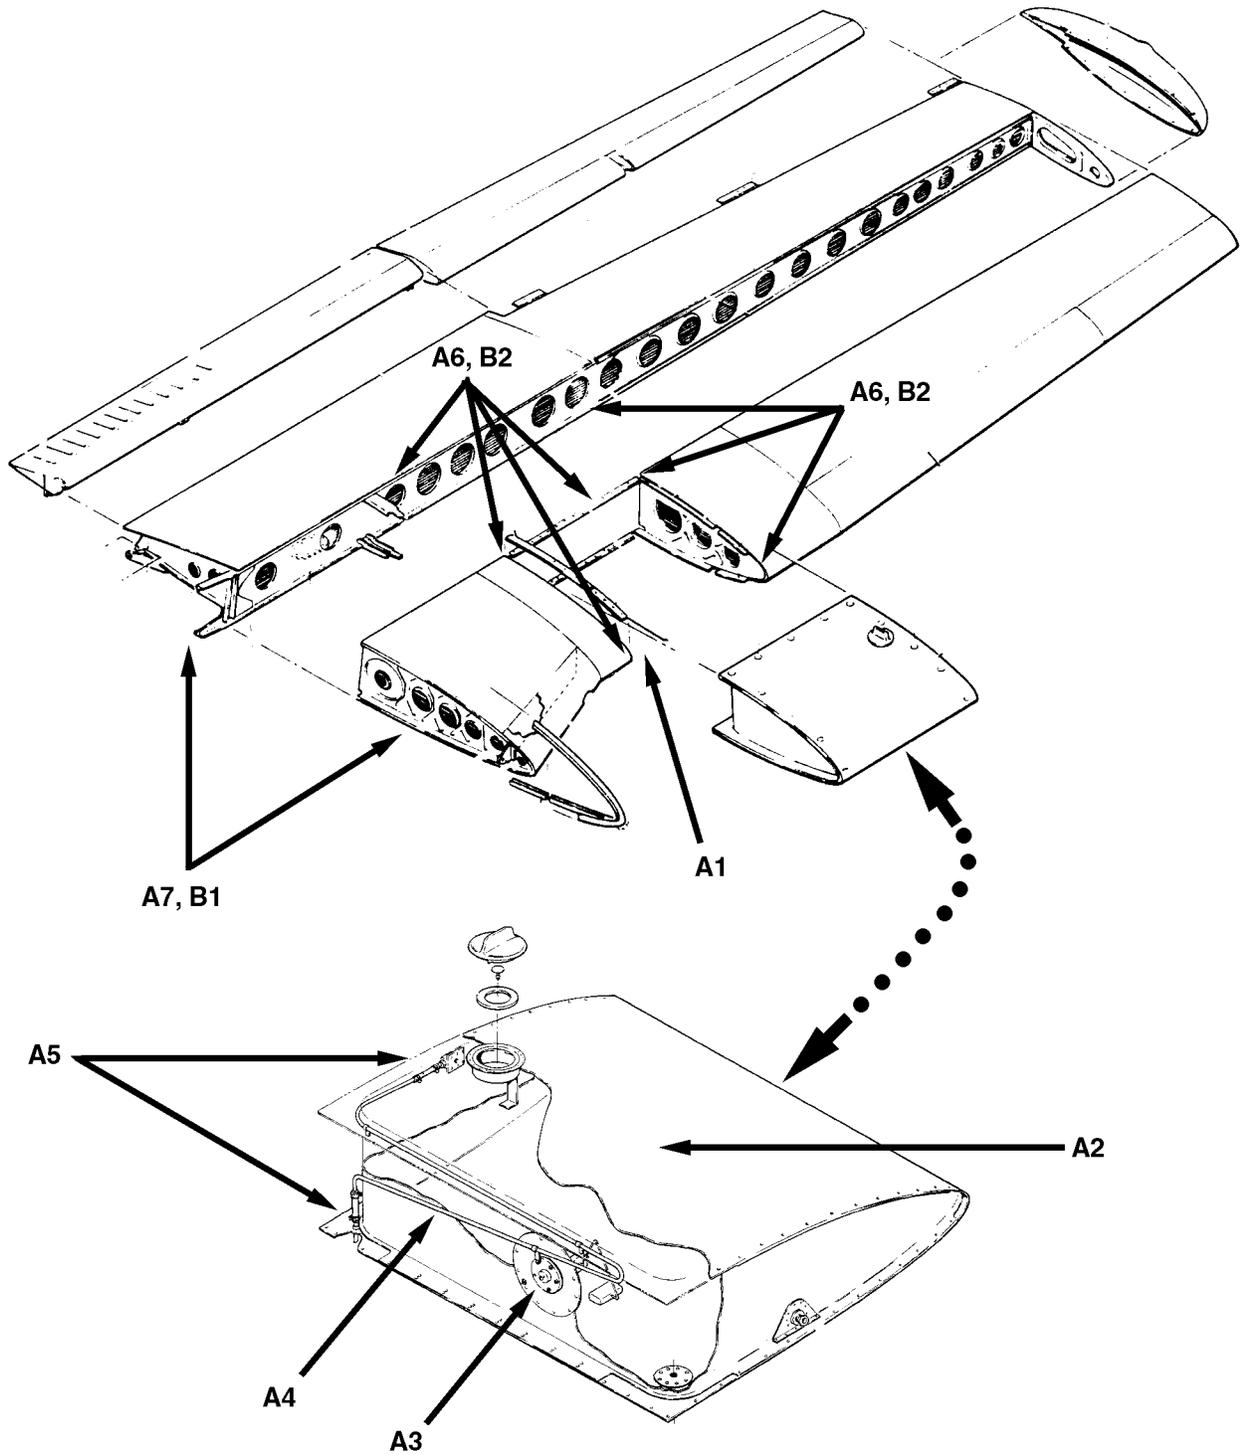

Figure 28-2. Fuel Tank / Wing Spar Corrosion Inspection (Typical)
(Refer to Figure 28-2 - sub-paragraphs a and b keyed to figure)
**1. Removal ( Refer to Figure 28-2 )**